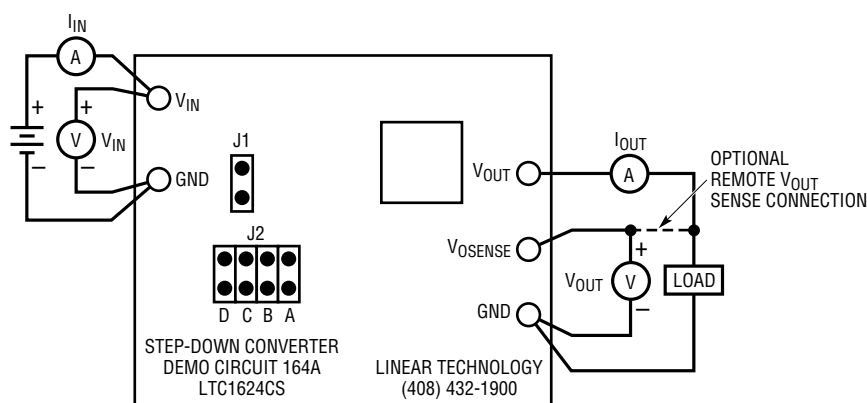

Figure 3. Proper Measurement Setup
- Refer to Figure 3 for board orientation and proper measurement equipment setup.
When trying to measure voltage regulation, remember that all measurements must be taken at the point of regulation. This point is where the LTC1624's control loop looks for the information to keep the output voltage constant. In this demonstration board this information point occurs between the signal ground and the output side of  $R1$ . These points correspond to the GND (E5) and  $V_{OSENSE}$  (E4) terminals of the board. Output voltage test leads should be attached directly to these terminals. The load should be placed across  $V_{OUT}$  (E3) to GND (E5). Measurements **should not** be taken at the end of test leads at the load; refer to Figure 3 for the proper monitoring equipment configuration.